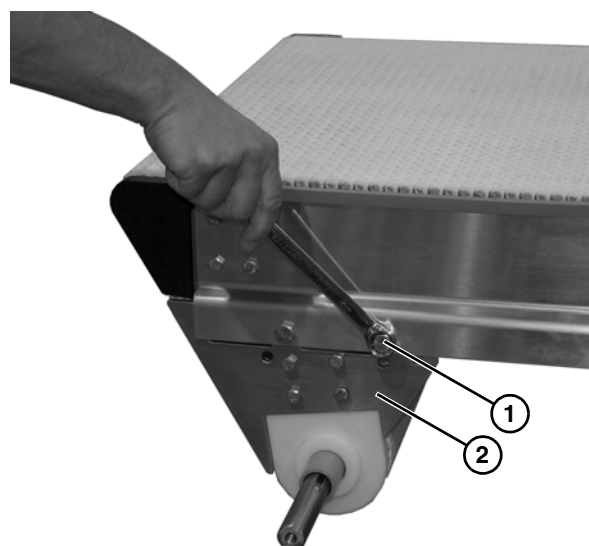

Figure 13
1. Remove cap screw (Figure 13, item 1) from nose bar side plate (Figure 13, item 2).